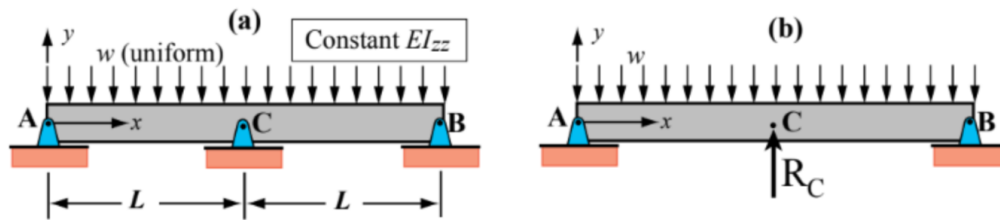
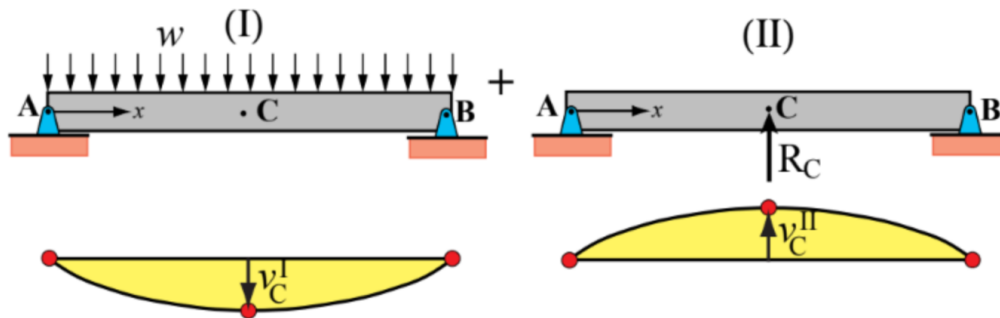

Figure 4: Two-span continuous beam model of freeway overpass.
Figure 5: Two-span continuous beam: solution by superposition and table lookup.
The beam configuration is defined in Figure 4 below.
Decompose the problem of Figure 4 into the two load cases (I) and (II) illustrated in Figure 5. The boundary conditions for both load cases are: